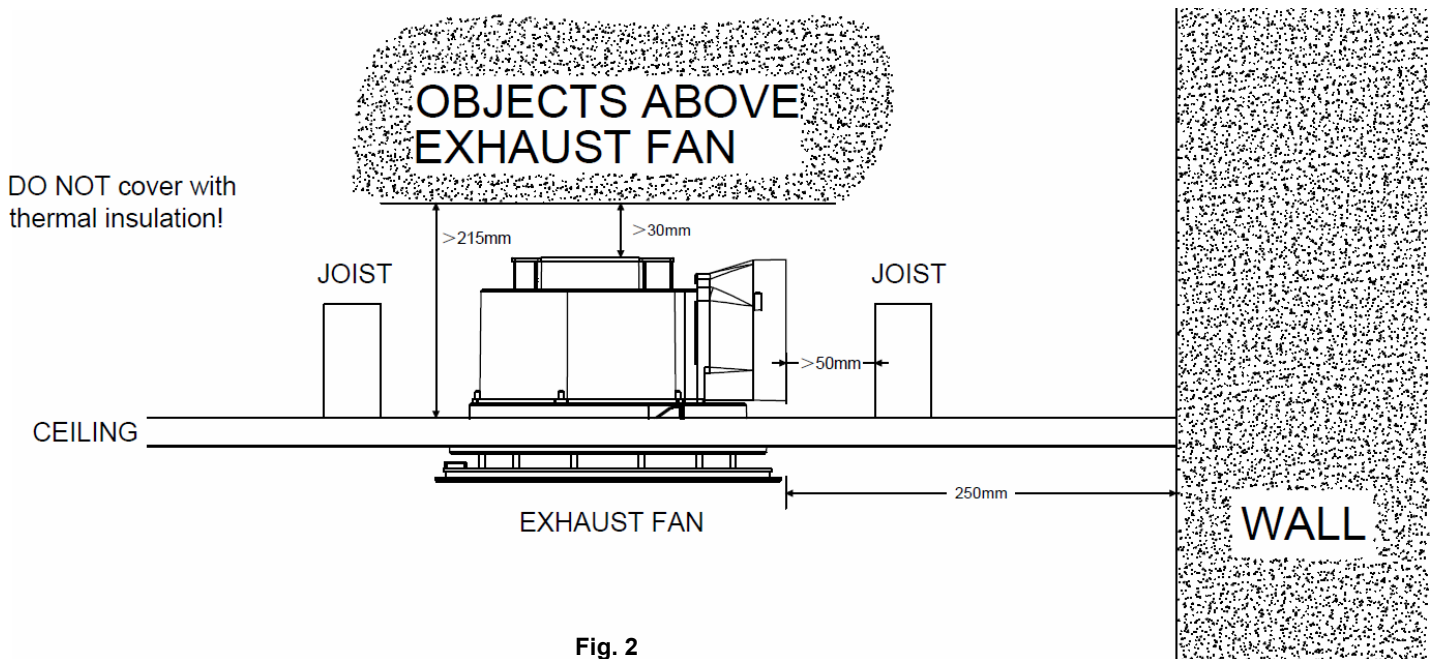

Fig. 2
- Ensure all the clearance values to structural building elements are maintained according to the clearance diagram in Fig. 2.
Before installation, please plan and check the ceiling space to make sure that there are no obstructions such as ceiling joists and there is sufficient height clearance for the motor housing. Refer to the below Figure 2 for the clearance requirements.
NOTE: Ensure clearance requirements listed in Fig. 2 above are met prior to cutting into the ceiling.